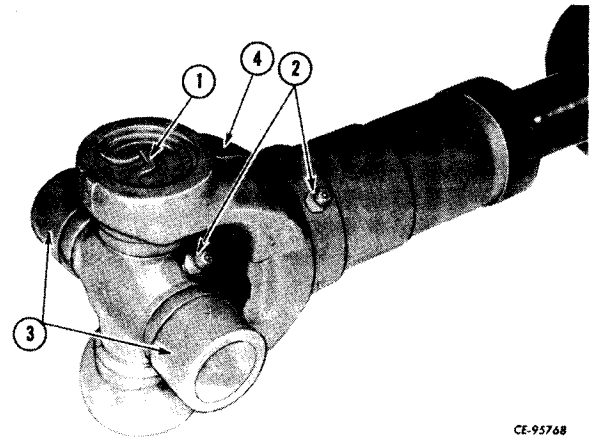

Figure 5-7
Remove bearing caps (3, Fig. 5-7) and grease fittings (2) from spider and drive shaft. Remove snap rings (1) from each end of yoke (4).